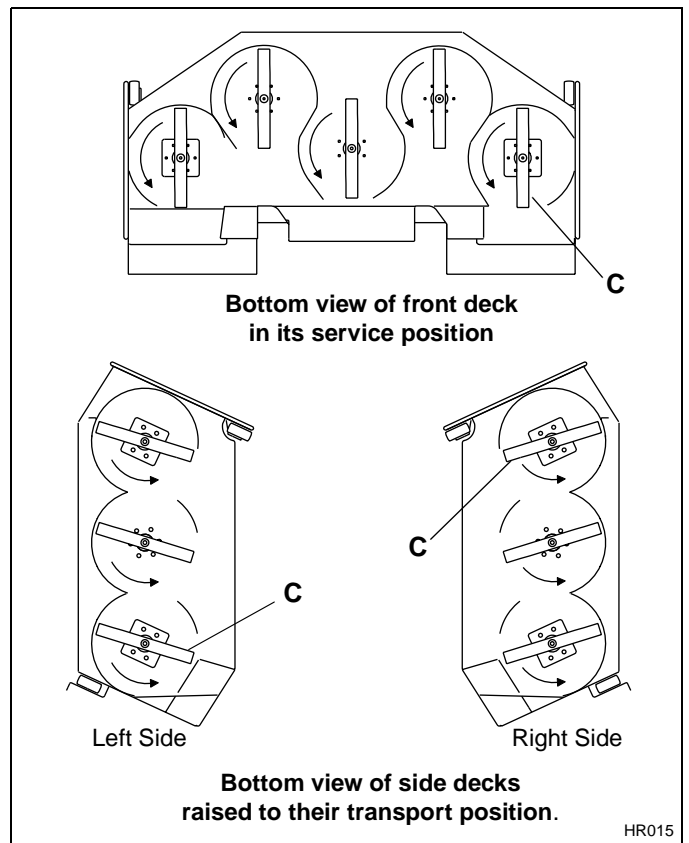

Figure 4C
5. Attach blade to mower. Install blades so cutting edges **(C)** face the direction of rotation as shown in Figure 4C. Beveled cutting edge of blade must face in toward deck housing.